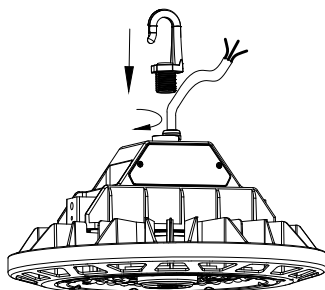

FIG. 2
3. Install the hook on fixture. See Fig. 2.